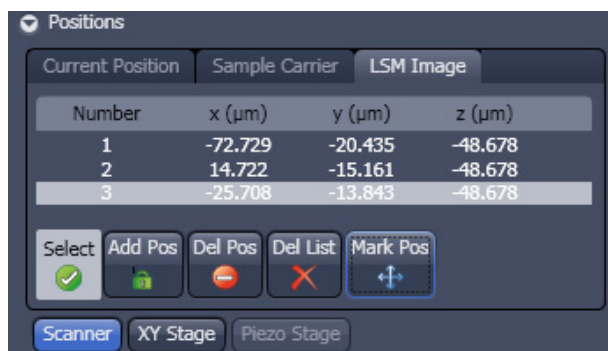
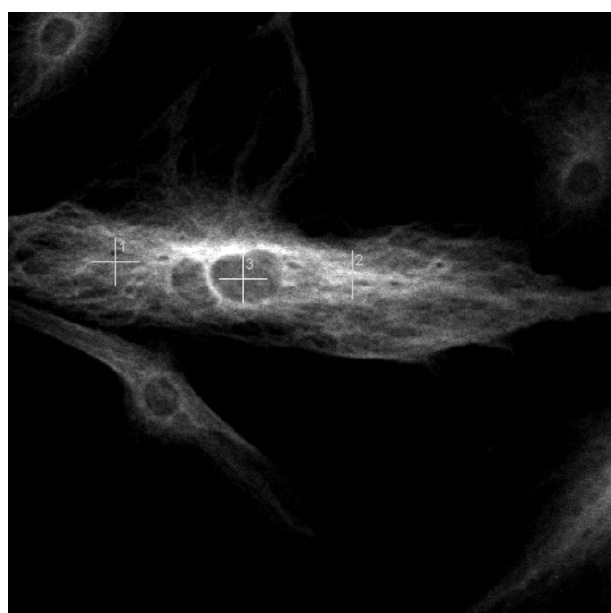

Fig. 9-45 Position list with 3 positions selected
Fig. 9-46 LSM scan image with 3 selected positions
- Move the cursor to the desired position in the scan image (drag and drop). Press the **Add Pos** button to add the position marked with the crossline to the **Positions** list (Fig. 9-45). A crossline is set at the selected cursor position in the image (Fig. 9-46). To select further positions click at the appropriate position in the image and then on **Add Pos**. If more than one position is selected the crosslines are getting current numbers. The Position list displays the numbers and coordinates of the positions in the **Number**, **x (µm)**, **y (µm)** and **z (µm)** display boxes.
- Press the **Mark Pos** button to fix the crosslines as overlay elements in the scan image (Fig. 9-46). The crosslines will also stay visible in the scan image if the **Select** button is deactivated. If you call up an image later you have to activate the overlay function and a line drawing element to display the crosslines.